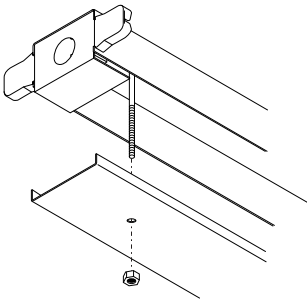

Figure 7
7. Grasp the channel cover with the flanges facing upward, align the clearance holes with the carriage bolts hanging from the base. Slide the cover upward and secure the cover in place with (2) hex nuts. **See Figure 7.**
Voir la figure 7.